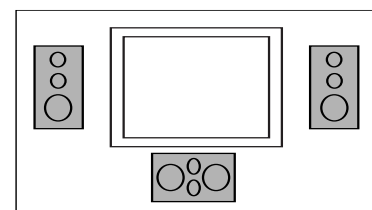

Figure 3.
**SAM3HA:** If you have purchased the horizontal channel speaker (model SAM3HA) for the center position, be sure to position it horizontally during installation in order to take advantage of its sound-dispersion characteristics. If you mount it vertically, it will not provide the correct dispersion pattern. Although the preferred speaker model to be used with a perforated projection screen is the vertical model SAM3VA (above), the SAM3HA horizontal speaker may be used instead and should be mounted behind the center of the screen. If a nonperforated projection screen, plasma display or other fixed video device is being used in the installation, then the recommended location is directly below and as close as possible to the video display (see Figure 3), although the inverse of this method will work also.